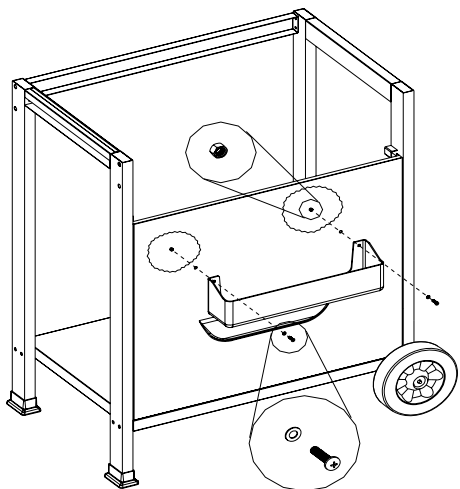

Figure 6
2. Assemble the condiment tray onto the front panel using (2) $\frac{5}{32}$ x $\frac{2}{5}$ " screws and (2) $\frac{5}{32}$ " nuts with (2) $\frac{5}{32}$ " washers. (Fig.6)